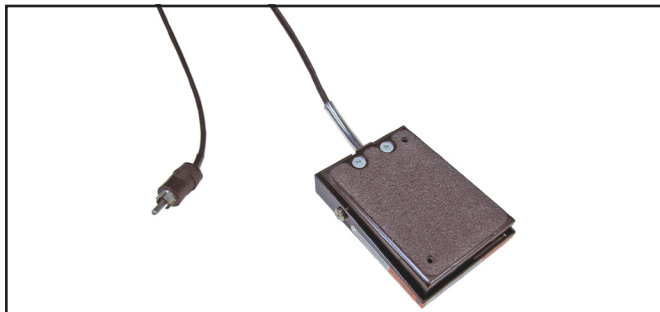

Figure 4: 19592 optional foot switch should be connected to the ion gun console Letter C in Figure 3
- C. Foot Switch Jack:** Foot Switch Jack: Connect the optional foot switch item #19592 here. See Figure 4.